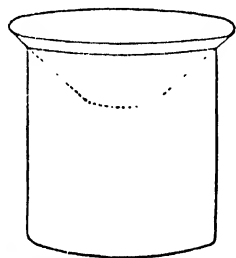

Fig. 59.—Beetle or Cockroach Trap.
**Trapping Beetles.**—It is exceedingly difficult to make a clearance of cockroaches, once they have obtained a footing in a house, for the reason that their haunts cannot easily be reached. A beetle trap known as the "Demon" is satisfactory in use, but a home-made appliance which will prove effectual is a vessel—one which is glazed inside and has steep sides is essential—placed on the floor of the frequented apartment. In the bottom is placed a little stale beer or yeast. A glass gas shade of conical shape, such as is used chiefly with argand and mantle burners, may, if preferred, be placed small end downwards, resting on the rim inside the vessel (see Fig. 59). Gangways, formed of pieces of wood reaching from the floor to the top of the pan, are arranged plentifully round the sides; up these the insects, attracted by the smell of the beer, quickly pass, fall over, and are drowned. The trapped beetles should be burnt, as some may otherwise recover. As cockroaches multiply very quickly, the trapping must be persisted in as long as any specimens are discoverable. A simple cockroach trap is a round and shallow metal box having a convex cover